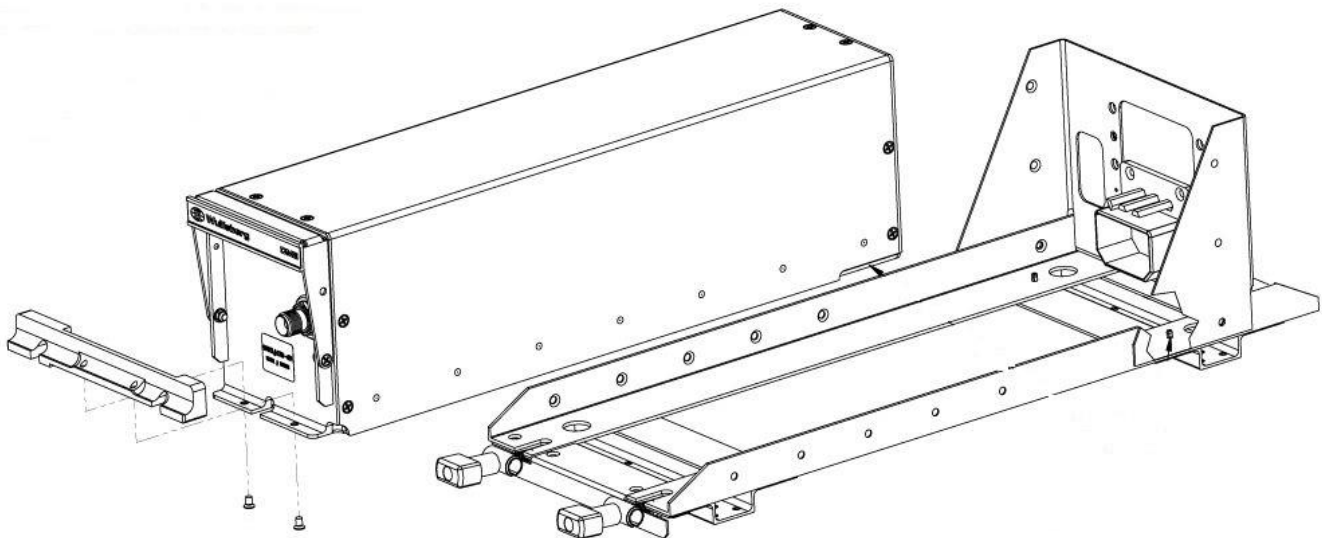

Figure 1 – Orientation of tray adapter bracket and screws
1. Position adapter bracket, PN 149-448014-01, onto the front flange of the CVN-251 as shown in Figure 1.